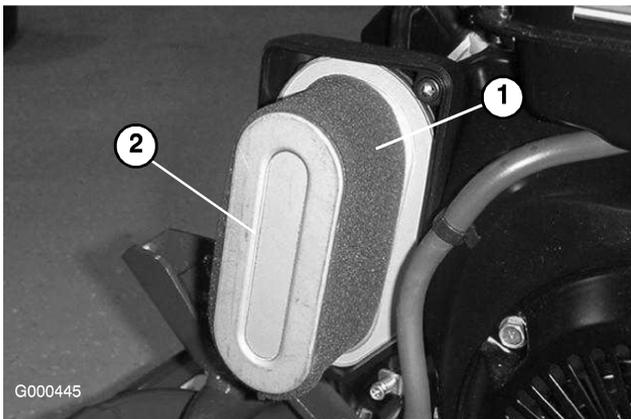

Figure 22
3. If foam element is dirty, remove it from paper element (Figure 22). Clean thoroughly.